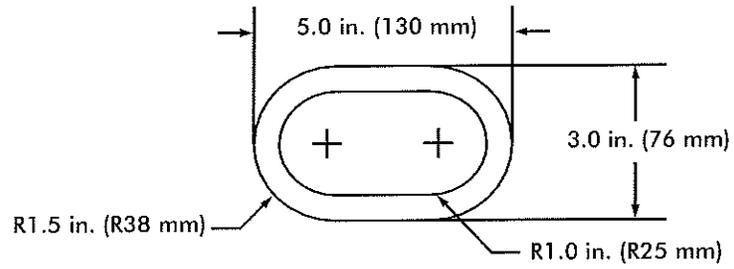
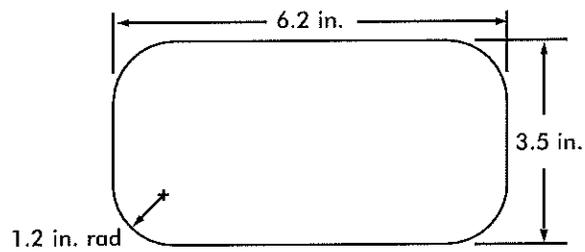

Figure B3. Toddler small torso template
Figure B4. Preschool- and school-age small torso template
The dimensions (see Figure B3 and Figure B4) of this template are based on the size of the torso of the smallest user at risk (5th percentile 6-month-old child for Figure B3 and 2-year-old child for Figure B4). If an opening is too small to admit the template, it is also too small to permit feet first entry by a child. Because children's heads are larger than their torsos, an opening that does not admit the small torso template will also prevent head first entry into an opening by a child.
- Step 1: Select the appropriate small torso template based on the intended users of the playground (Figure B3 for toddler playgrounds, Figure B4 for preschool- and school-age playgrounds).
**Step 1:** Select the appropriate small torso template based on the intended users of the playground (Figure B3 for toddler playgrounds, Figure B4 for preschool-age and school-age playgrounds).
- Step 1: Select the appropriate small torso template based on the intended users of the playground (Figure B3 for toddler playgrounds, Figure B4 for preschool-age and school-age playgrounds).